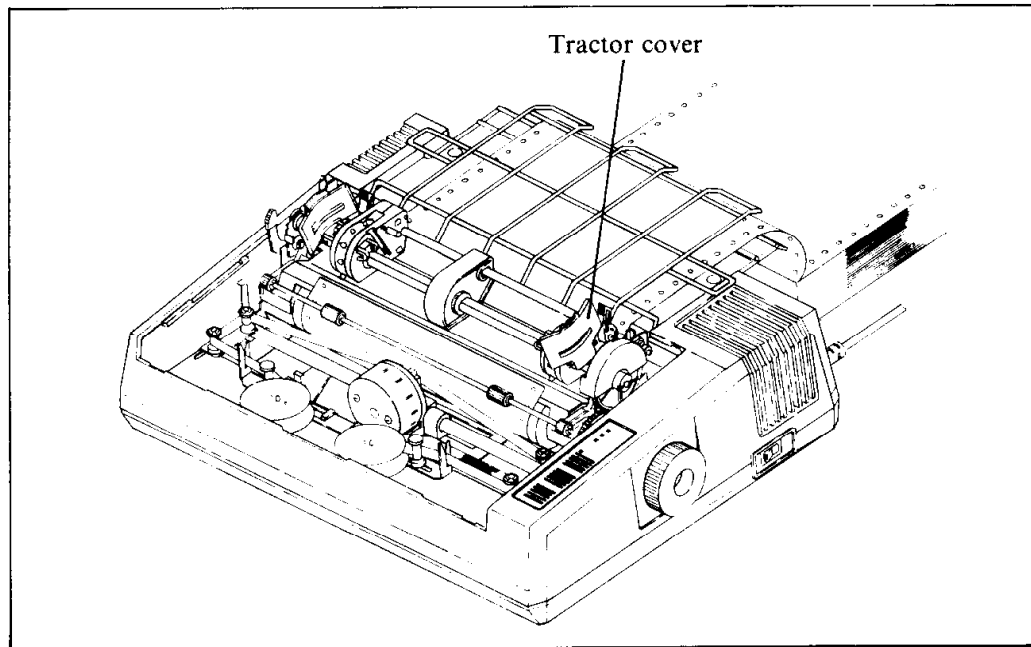

Figure 2-7. Open the tractor covers to expose the sprocket teeth.
5. Open the tractor covers, atop the right and left sprocket units, as shown in Figure 2-7.
5. Open the tractor covers, right and left (Figure 2-7).